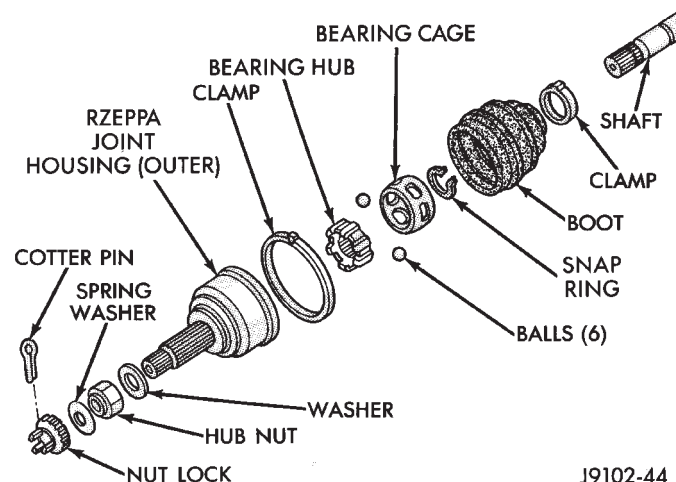

Fig. 12 Outer C/V Joint Components
(1) Remove retaining clamps from the outer C/V joint and discard. Slide the boot off the outer joint and down the shaft.
(2) Remove the lubricant to expose the outer C/V joint components (Fig. 12).